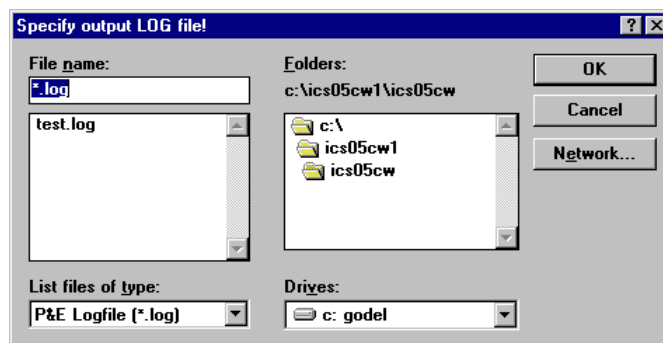

Figure 6-11. Specify Output LOG File! Dialog
- The *Specify output LOG file* dialog (Figure 6-11) opens.